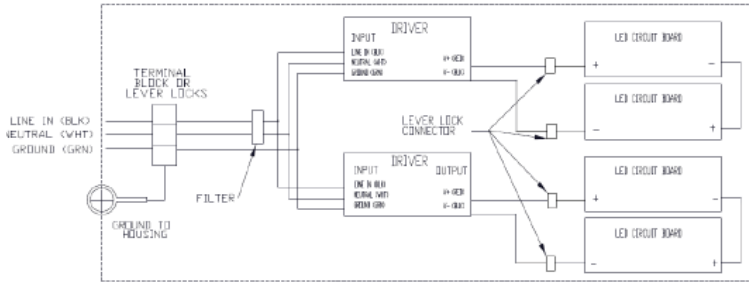

Figure 2
1. All components in the fixture are pre-wired so only line in, neutral and ground need to be connected in the fixture to the terminals per the wiring diagrams using methods that comply with all applicable codes. Use 16 AWG (1.3 mm2) minimum for grounding wires. Use 18 AWG (0.82mm2) minimum for common and line wires. Use supply cord with outer sheath diameter in accordance with Table 1. Terminate the equipment grounding conductor (green) first, the common (white) next, and finally, the line voltage (black) last. Secure all electrical connections and wiring entry glands (see Figure 2).